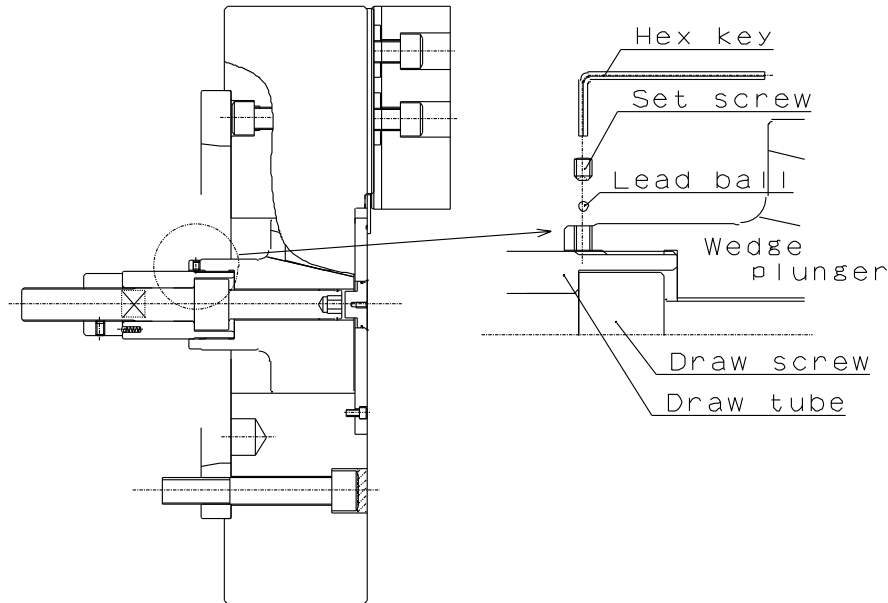

Fig.22
- The draw tube is packed as a separate unit because of packing reason. Install the draw tube to the plunger with a spanner. Then install the lead ball and the set screw., so that it may not be loosened. (Refer to Fig.22)